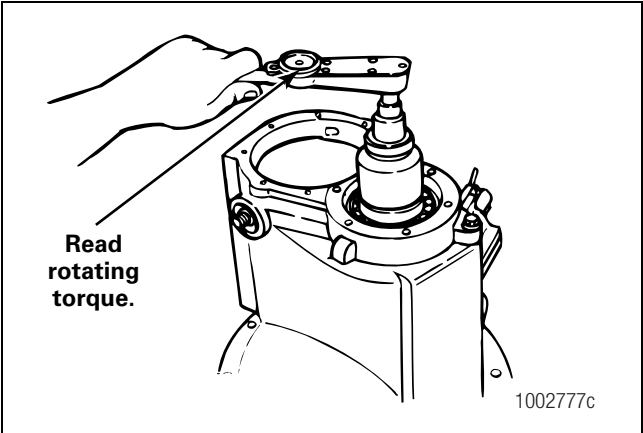

Figure 5.16
1. Place an inch-pound (N•m) torque wrench and the correct socket onto the drive pinion nut. Figure 5.16.